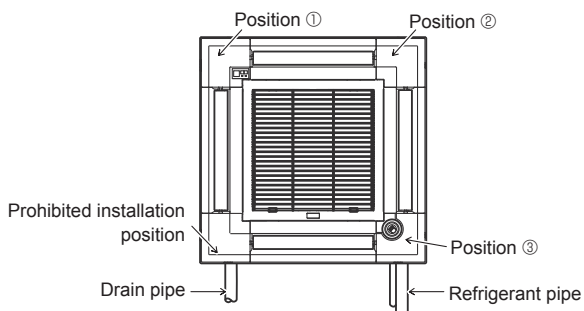

Fig. 9-11
The signal receiver corner panel can not be installed on the drain pipe side for the main unit. (Refer to Fig. 9-11)
- The i-see Sensor corner panel should be fixed onto the grille ① with screw ③.
- * If the position of the i-see Sensor was changed from default position (position ③) to the other position, change the function settings. (Refer to page 13 and Fig. 9-11)
- The i-see Sensor corner panel can not be installed on the drain pipe side for the main unit. (Refer to Fig. 9-11)